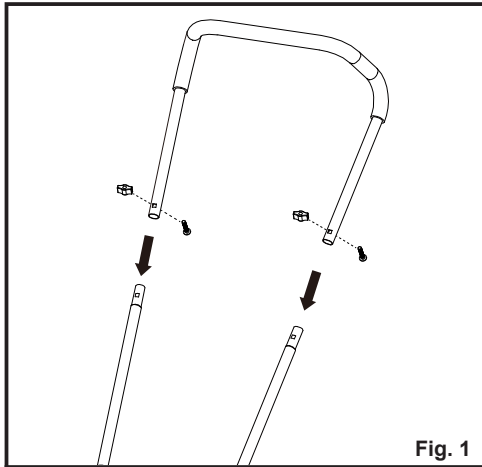

Fig. 1
- Secure the upper handle to the middle handles with two bolts and two twist knobs (Fig. 1).